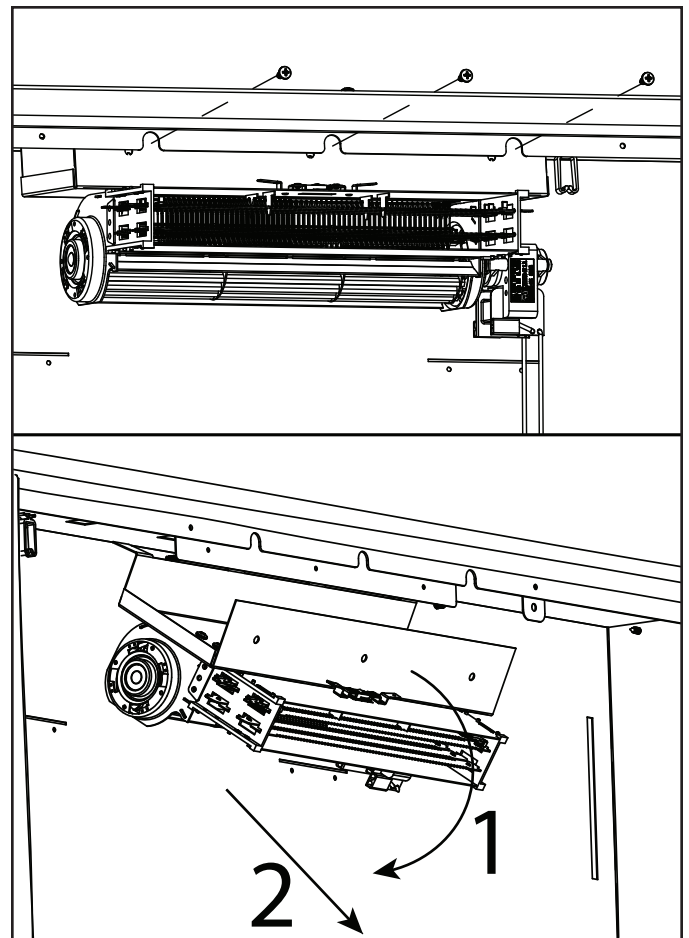
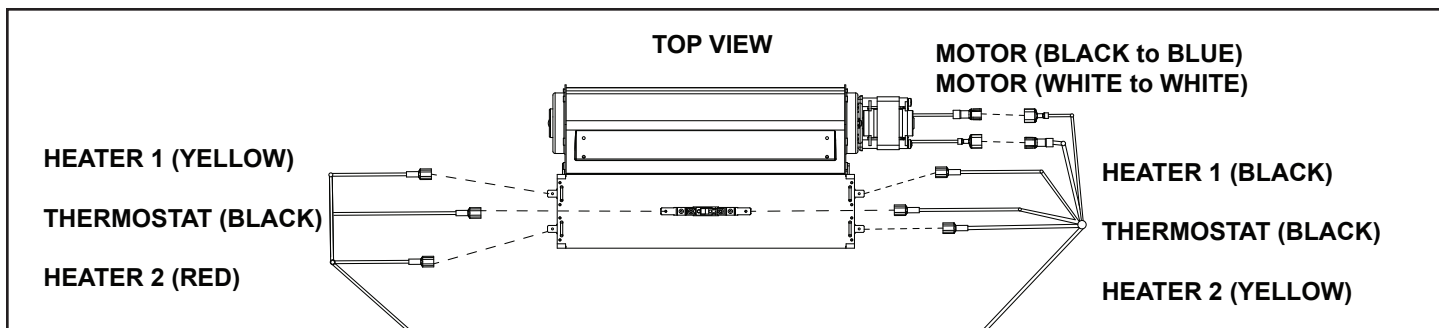

Figure 3.11 Heater/Blower Assembly Removal
Figure 3.14 Blower/Heater Assembly Wiring
2. Make note or photograph the wiring labels and locations and harness routing. Disconnect all 8-spade wire connections from the heater/blower motor. See Figure 3.11 and Figure 3.14.
3. Support the heater/blower assembly while removing the three (3) Phillips screws from the front of the assembly mounting bracket. See Figure 3.11.
4. Swing the front of the heater/blower assembly downward then pull the assembly away from the appliance disengaging the mounting tabs from the appliance. See Figure 3.11.
5. Remove the attached the mounting bracket from the removed heater/blower assembly and attach it to the replacement heater/blower by removing and reusing the four (4) Phillips screws.
6. Wire the new heater/blower harness by matching the wire labels with locations as noted and shown in Figure 3.14.
2. Make note or photograph the wiring labels and locations and harness routing. Disconnect all 8-spade wire connections from the heater/blower motor. See Figure 3.14.
4. Route and wire the new heater/blower harness by matching the wire labels with locations as noted and shown in Figure 3.14.